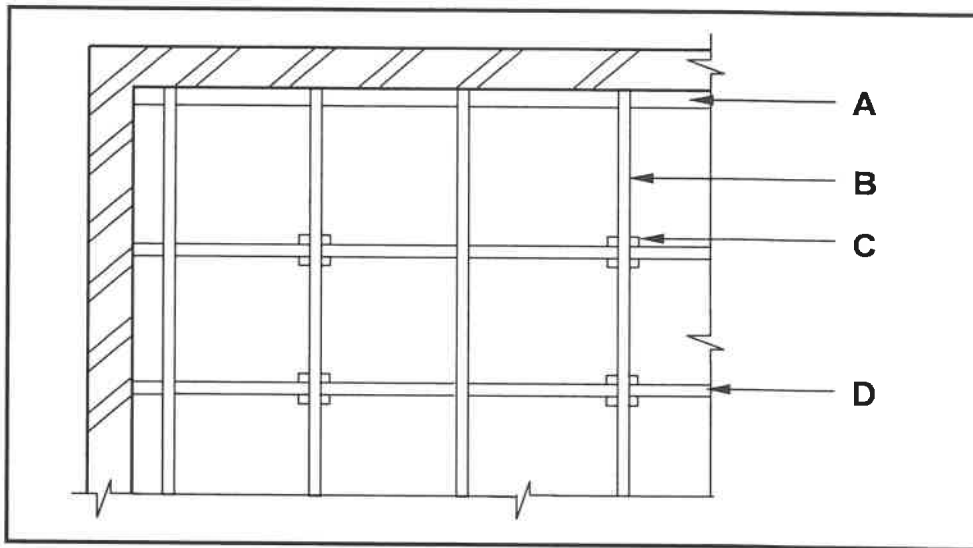

FIGURE 6.2
- D hinges. (1)
- 6.2 FIGURE 6.2 below shows part of the floor plan of a suspended timber floor. Study the drawing and name parts **A** to **D**.
- 6.3 Justify why the concrete base under part **C** in FIGURE 6.2 should be wider than part **C**. (1)